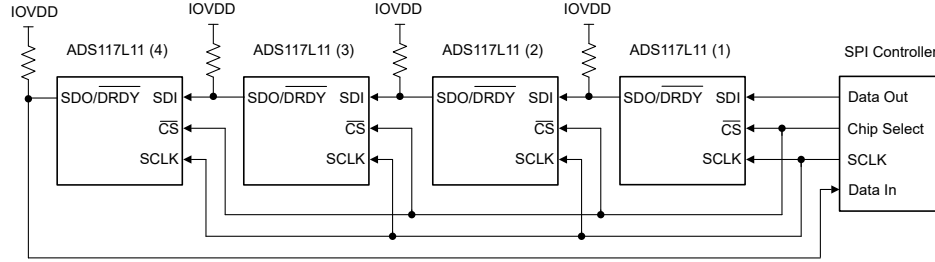

Figure 8-36. Daisy-Chain Connection
Figure 8-36 illustrates four devices connected in a daisy-chain configuration. The SDI of ADS117L11 (1) connects to the host SPI data out, and SDO/DRDY of ADS117L11 (4) connects to the host SPI data input. The shift operation is simultaneous for all devices in the chain. After each ADC shifts out the conversion data, the data of SDI appears on SDO/DRDY to drive the SDI of the next device in the chain. The shift operation continues until the last device in the chain is reached. The SPI frame ends when CS is taken high, at which time the data shifted into each device is interpreted. The SDO/DRDY pin must be programmed to data output-only mode.
Figure 8-38 shows the detailed input data sequence for the daisy-chain write register operation of Figure 8-36. 32-bit frames for each ADC are shown (16 bits of data, with the STATUS and CRC bytes enabled). Command operations can be different for each ADC. The read register operation requires a second frame operation to read out the register data.
Figure 8-39 illustrates the clock sequence to read conversion data from the device connection in Figure 8-36. This example illustrates a 24-bit output frame (16-bits of data, with the CRC byte enabled). The output data of ADC (4) is first in the sequence, followed by the data of ADC (3), and so on. The total number of clocks required to shift out the data is given by the number of bits per frame × the number of devices in the chain. In this example, 24-bit output frames × four devices result in 96 total clocks.